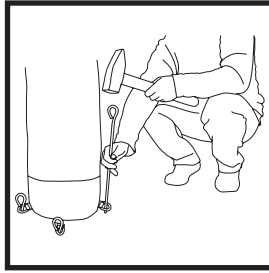

Fig. 5
8. Anchor the second leg of arc to the ground (Fig. 5).